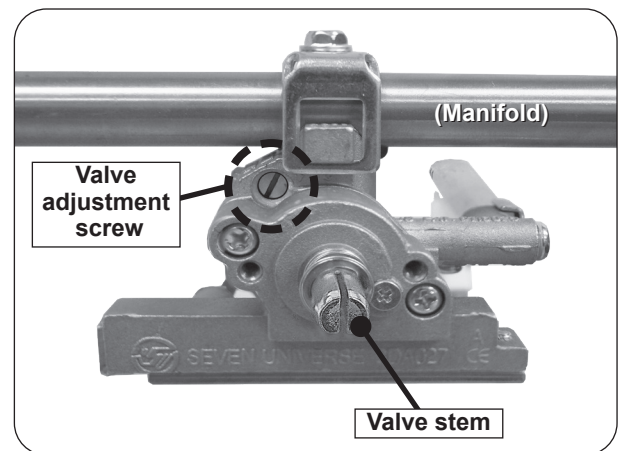

Fig. 35-1 Valve adjustment screw location
5. Locate the FLATHEAD adjustment screw found above the valve stem and below the manifold (see Fig. 35-1).